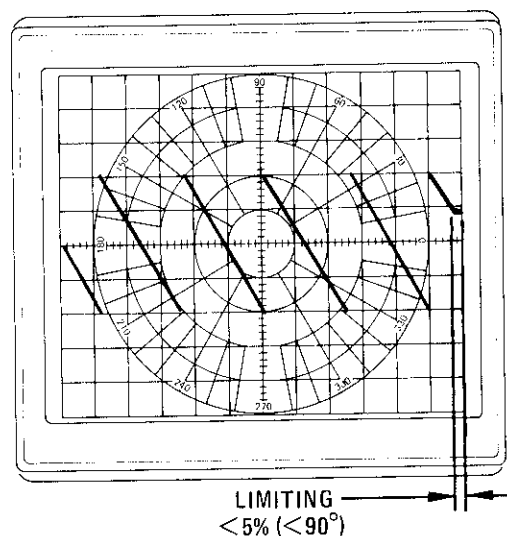

Figure A5-37. Waveform of Positive Offset Clamp
- w. The display should look like Figure A5-37. Increase the phase offset with LENGTH pushbuttons to +177 and clamping action should be observed at right end of trace. (Clamping action appears as a horizontal line at the right end of trace.) If clamping does not occur between +175 and +177, adjust "D" control A3A9R27 for clamping action in this range.